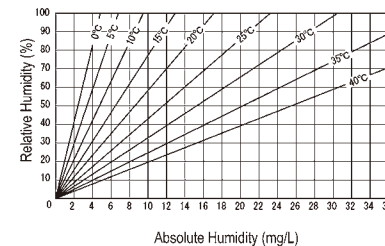

Fig. 2 Relative Humidity vs. Mass of Water Vapour
9. To obtain a relative humidity, refer to fig. 2.